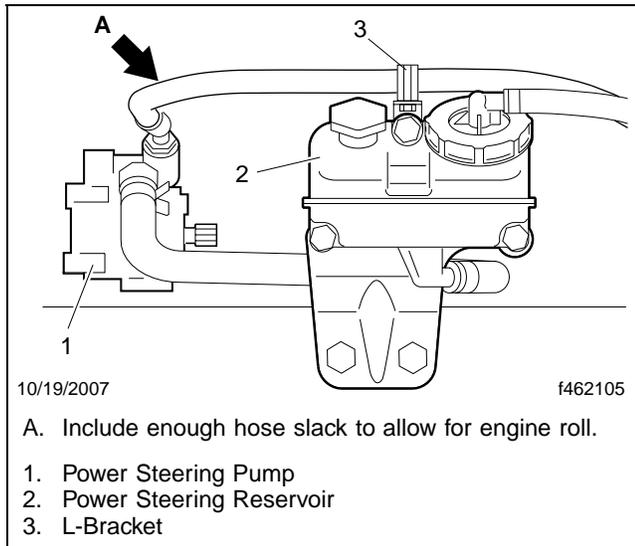

Fig. 4, Hose Routing To Pump (S60 Shown)
27. Install and route the new pressure line from the frame-mounted hose bracket to the pump, and include extra hose between the L-bracket on the top-mount of the reservoir and the pump to allow for engine roll. See **Fig. 4**. Tighten the fitting 42 to 52 lbf-ft (57 to 70 N·m).
30. Using hose clamps, install the new power steering pump suction line on the reservoir and pump. See **Fig. 4**.